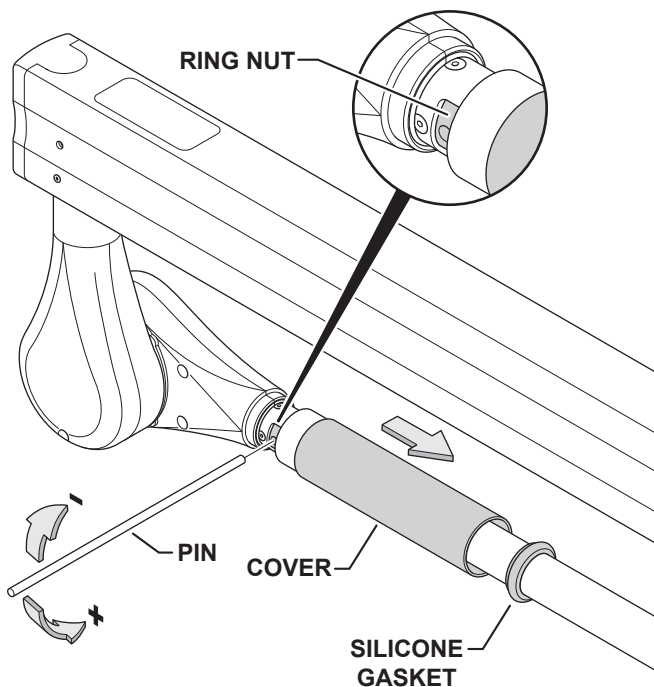

Figure 10. Spring Arm Tension Adjustment
1. Slide the silicone gasket and cover forward along the spring arm (Figure 10).